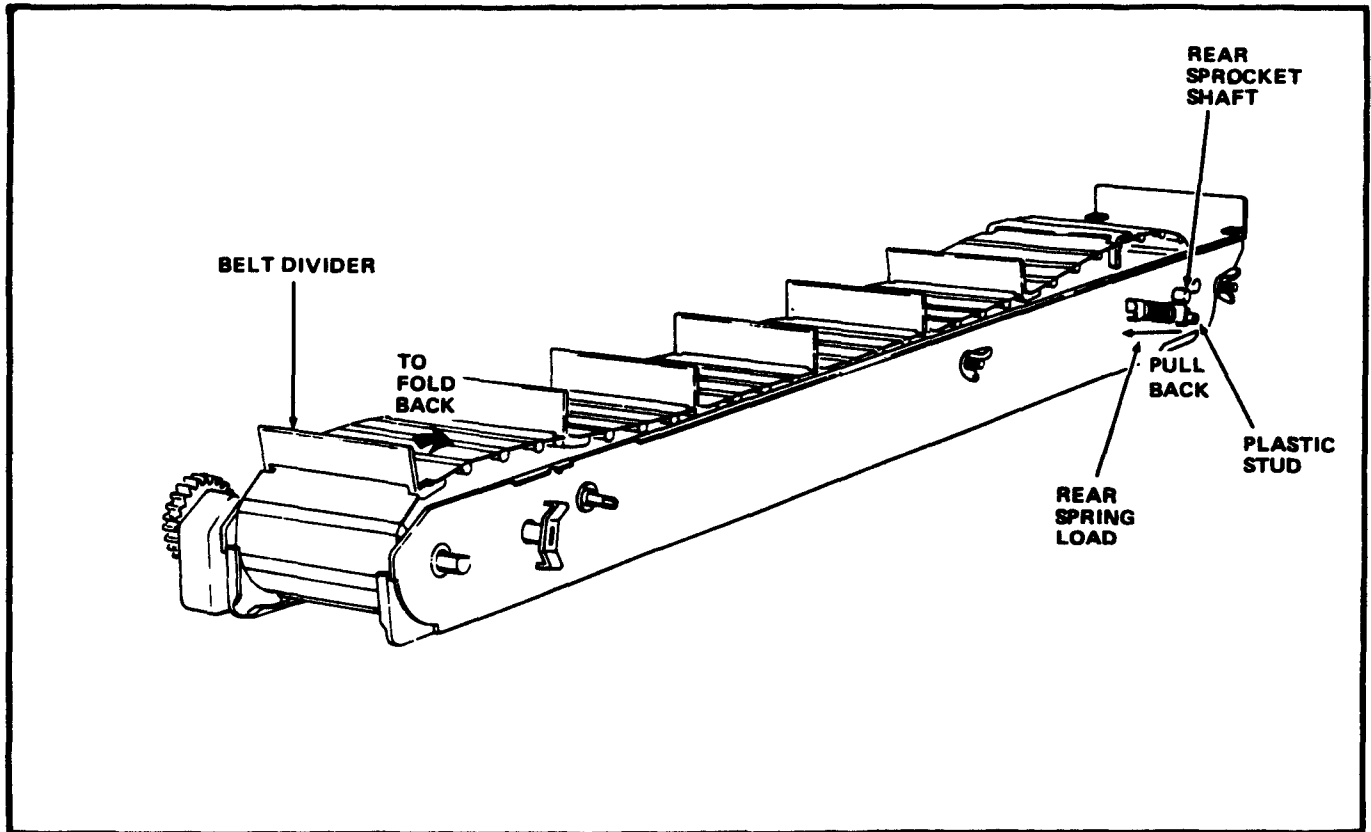

FIGURE 4
12. Compress both of the Rear Spring Loads on the removed Module, as shown in Figure 4, and rest them against the Plastic Studs on either side of the Module.
13. Fold back one of the Belt Dividers near the front of the Module. See Figure 4.